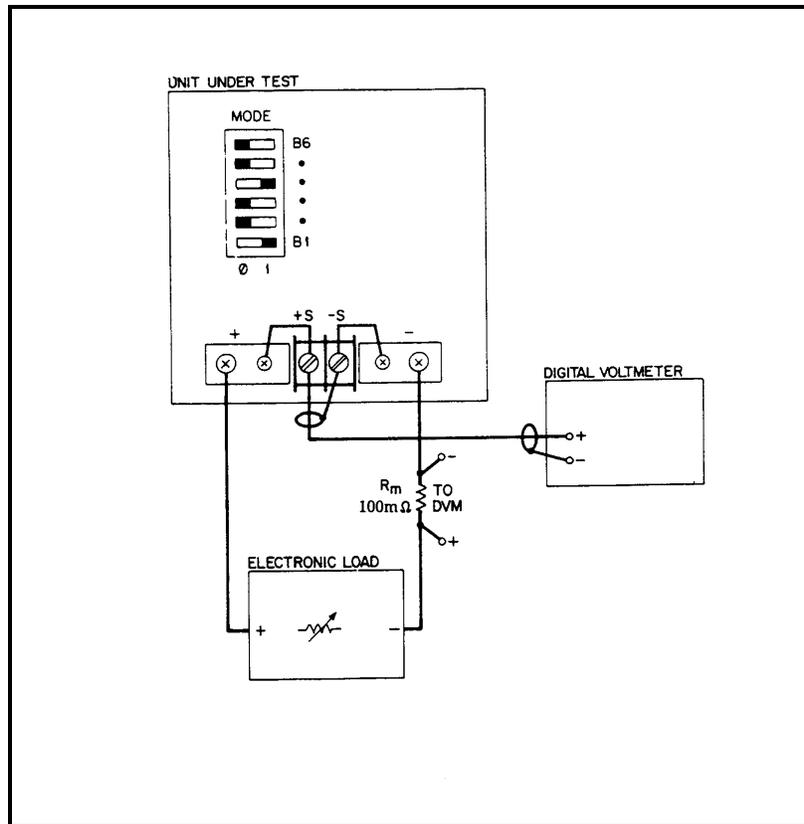

Figure 2-3. Basic Test Setup
- Connect the test equipment as shown in Figure 2-3. Operate the load in constant resistance mode (Amps/Volt) and set resistance to maximum.
- a. Connect the test equipment as shown in Figure 2-3. Operate the load in constant resistance mode (Amps/Volt) and set resistance to maximum.
- a. Connect the test equipment as shown in Figure 2-3. Operate the load in constant-current mode and set for minimum current.
- a. Connect the test equipment as shown in Figure 2-3. Operate the load in constant resistance mode (Amps/Volt) and set resistance to minimum.